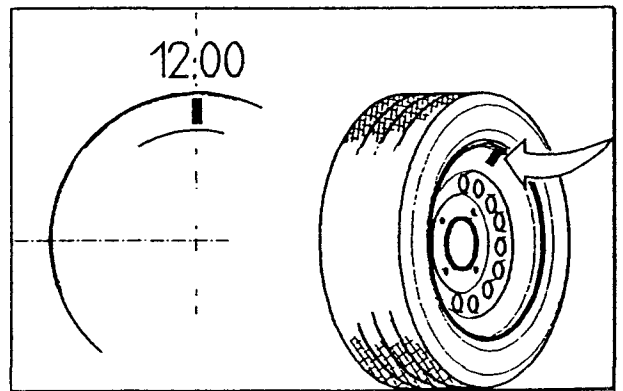

Fig. 46
K. Mark the rim on the inner or outer plane (as indicated by the angular displays lit on) (Fig.46).